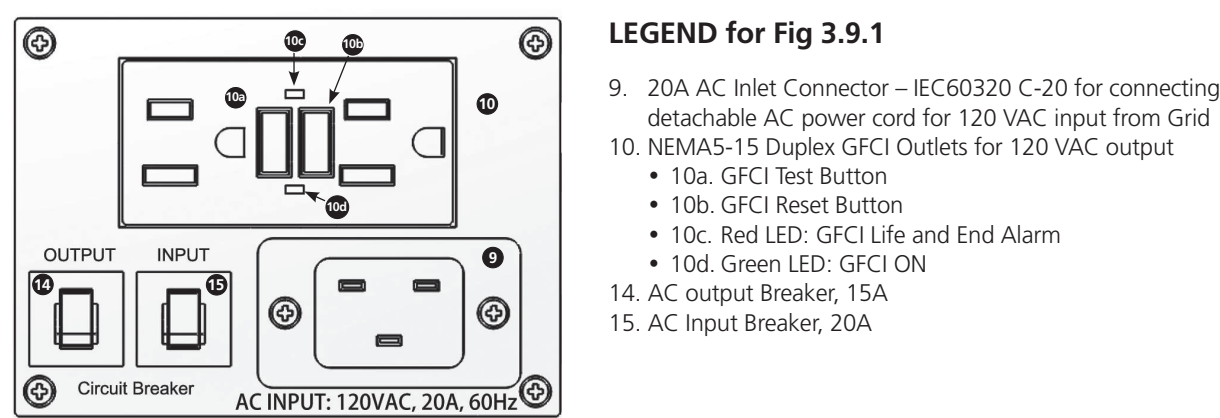

Fig 3.9.1 AC Input and Output Connections – EVO-1212F and EVO-1224F
3.6.1.1 AC Input Connection: Grid AC input is fed through 20A AC Inlet Plug Connector – IEC60320 C-20 (9, Fig 3.9.1). Use NEMA 20A-125 VAC detachable Power Cord [NEMA5-20 Plug for connecting to the 120VAC Outlet and IEC60320 C-19 Socket Connector on the other end for connection to the Inlet Plug Connector (9, Fig 3.9.1)]. **For convenience, IEC60320 C-19 socket connector has been provided. (See Section 2.6 - Contents of Package).**
LEGEND for Figs 3.9.1(a) and 3.9.1(b)